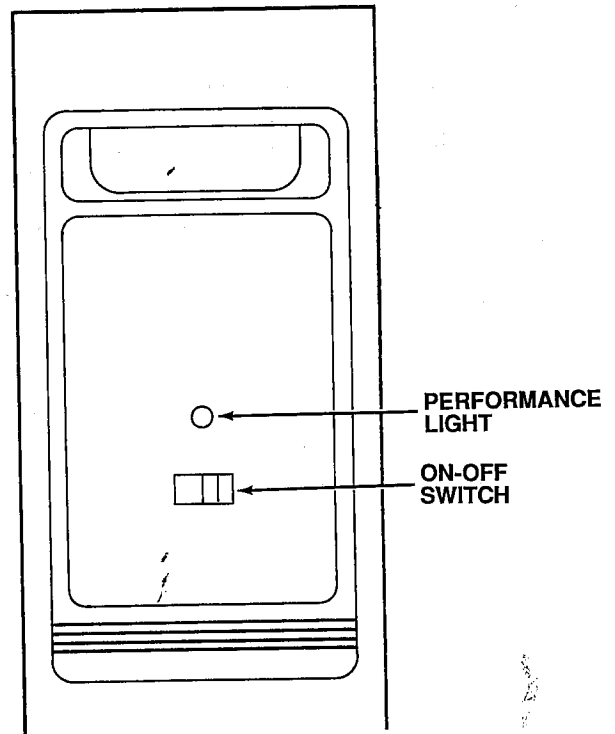

Figure 20
1. With the 120v AC power turned on at the circuit breaker for the furnace, push the air cleaner ON-OFF switch to the 'on' position (Figure 20)
2. Push the On-Off switch on the power pack to the OFF position (Figure 20). Wait 15 seconds and both the power pack and the collecting cell(s) will be automatically discharged.